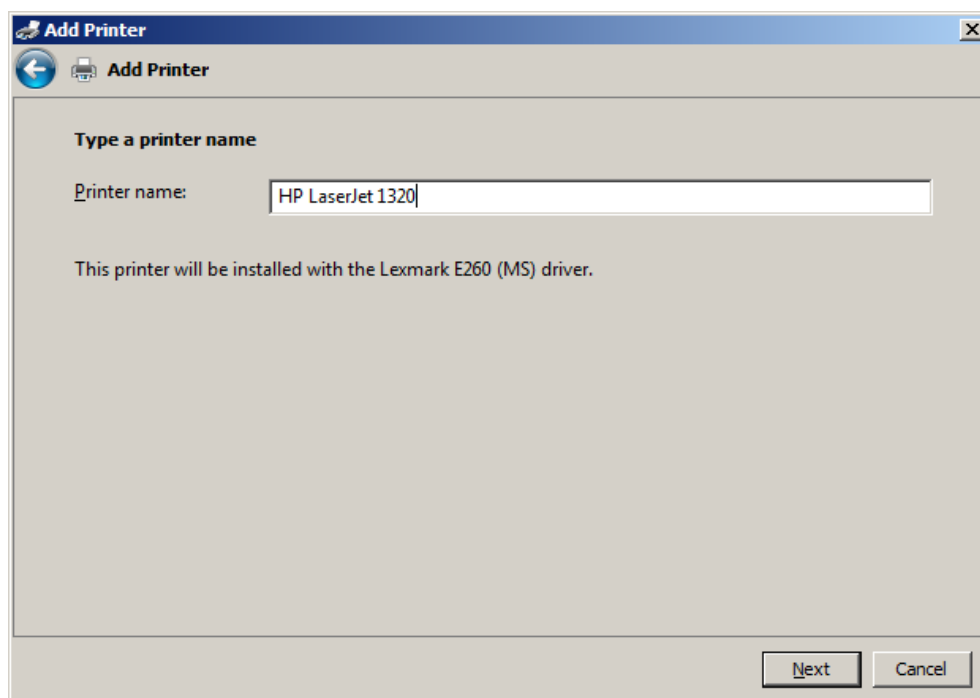

Figure 10.22 – Name printer
- 11) Enter the name you would like to call the printer. See figure 10.22 below.